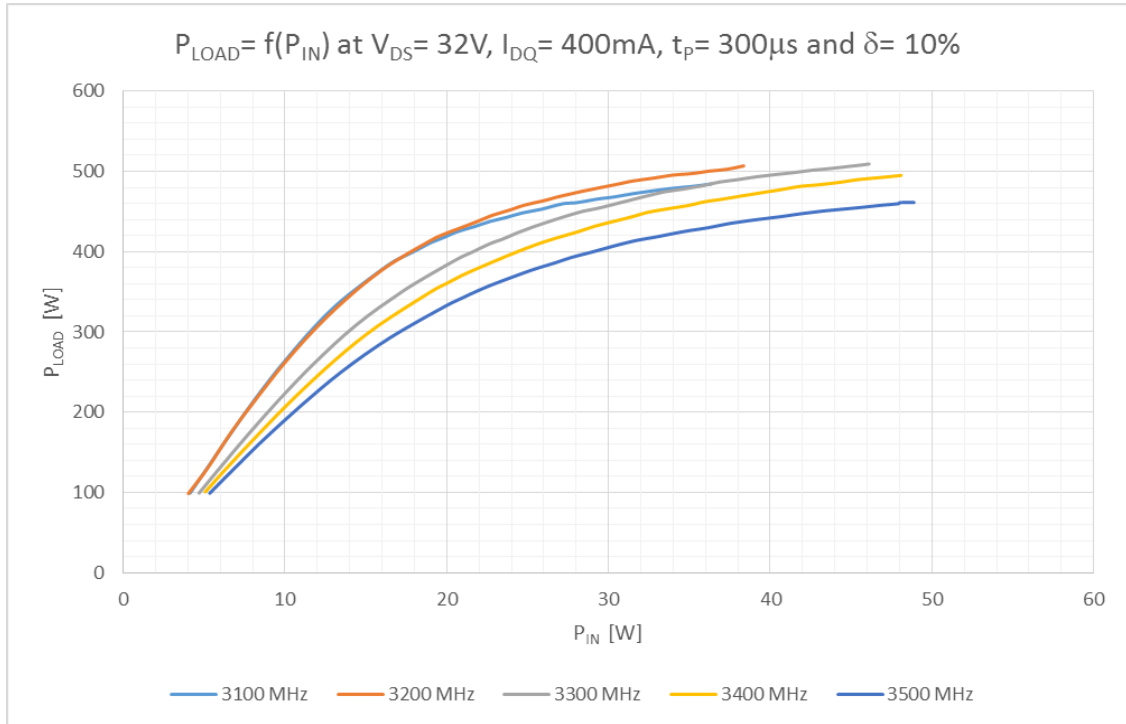

Figure 1 P_LOAD vs P_IN
- Figure 1 P_{LOAD} vs P_{IN} 4